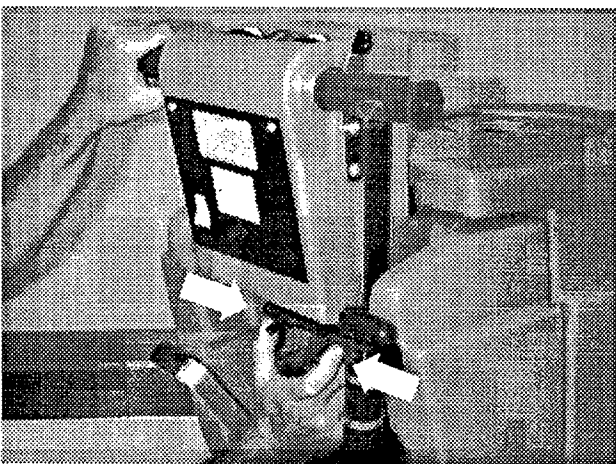

FIG. 11
2. Adjust control grips to a comfortable operating height (*three settings*). Squeeze together two levers under console to raise or lower control grips. *(Figure 11)*